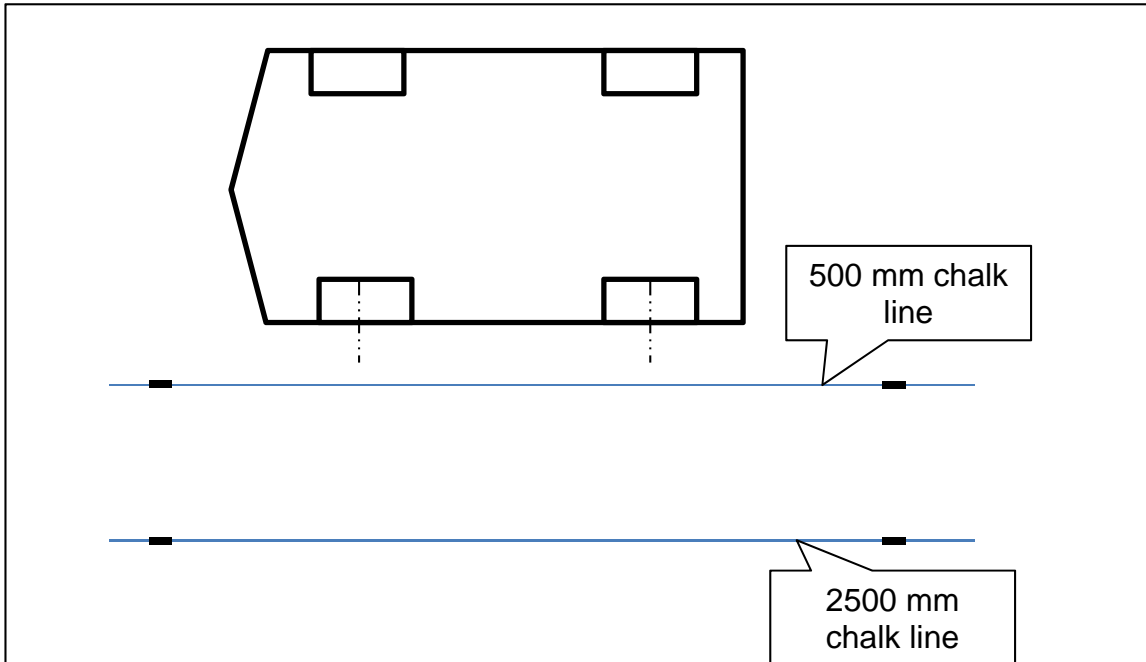
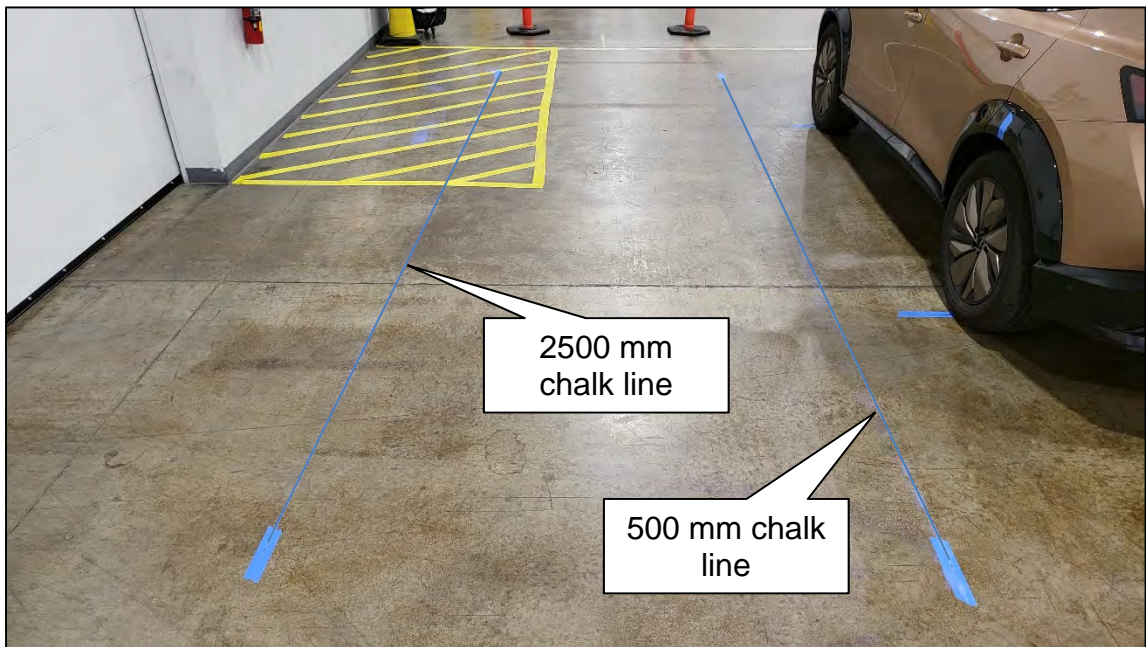

Figure 24
Figure 25
23. Use a chalk line tool to make a line between the 500 mm and 2500 mm marks, as shown in Figure 24 and Figure 25.